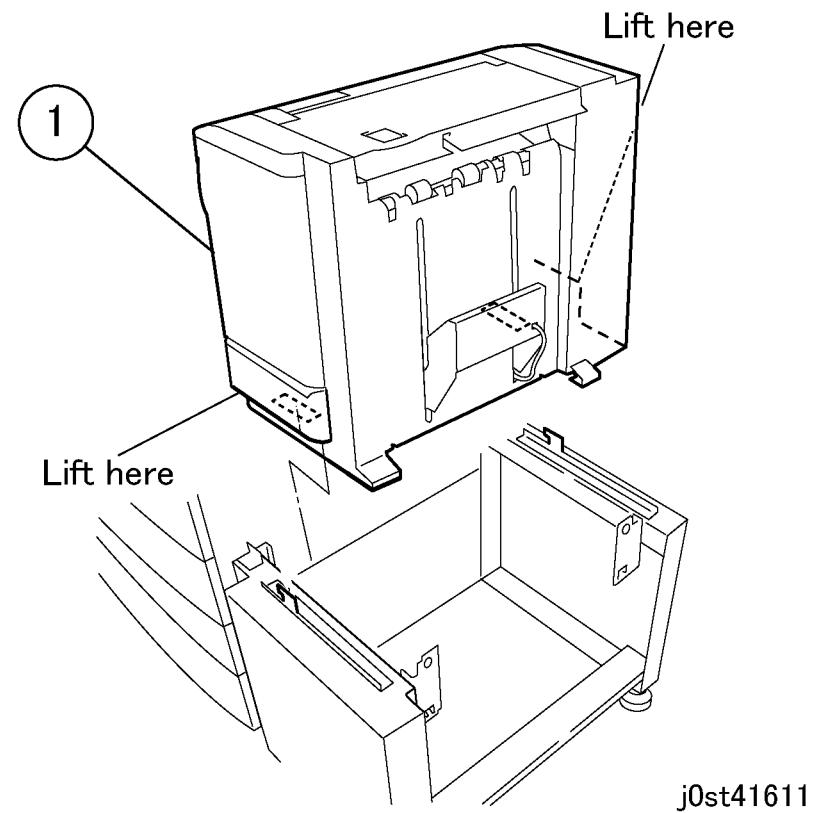

Figure 7 Removing the Finisher Assembly (j0st41611)
8. Move the Finisher Assembly to the left and lower it down from the rack. (Figure 7)